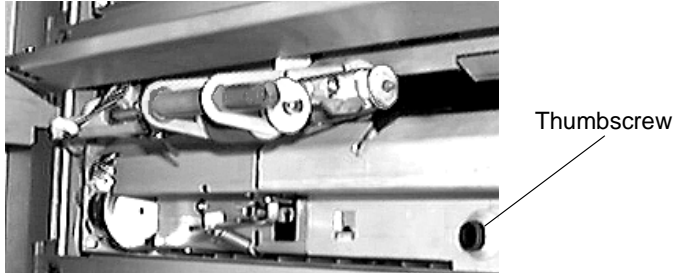

Figure 4-39 Locating Thumbscrew
2. Locate the thumb screw holding the steel plate over the lower tray roller assembly, as shown in Figure 4-39.